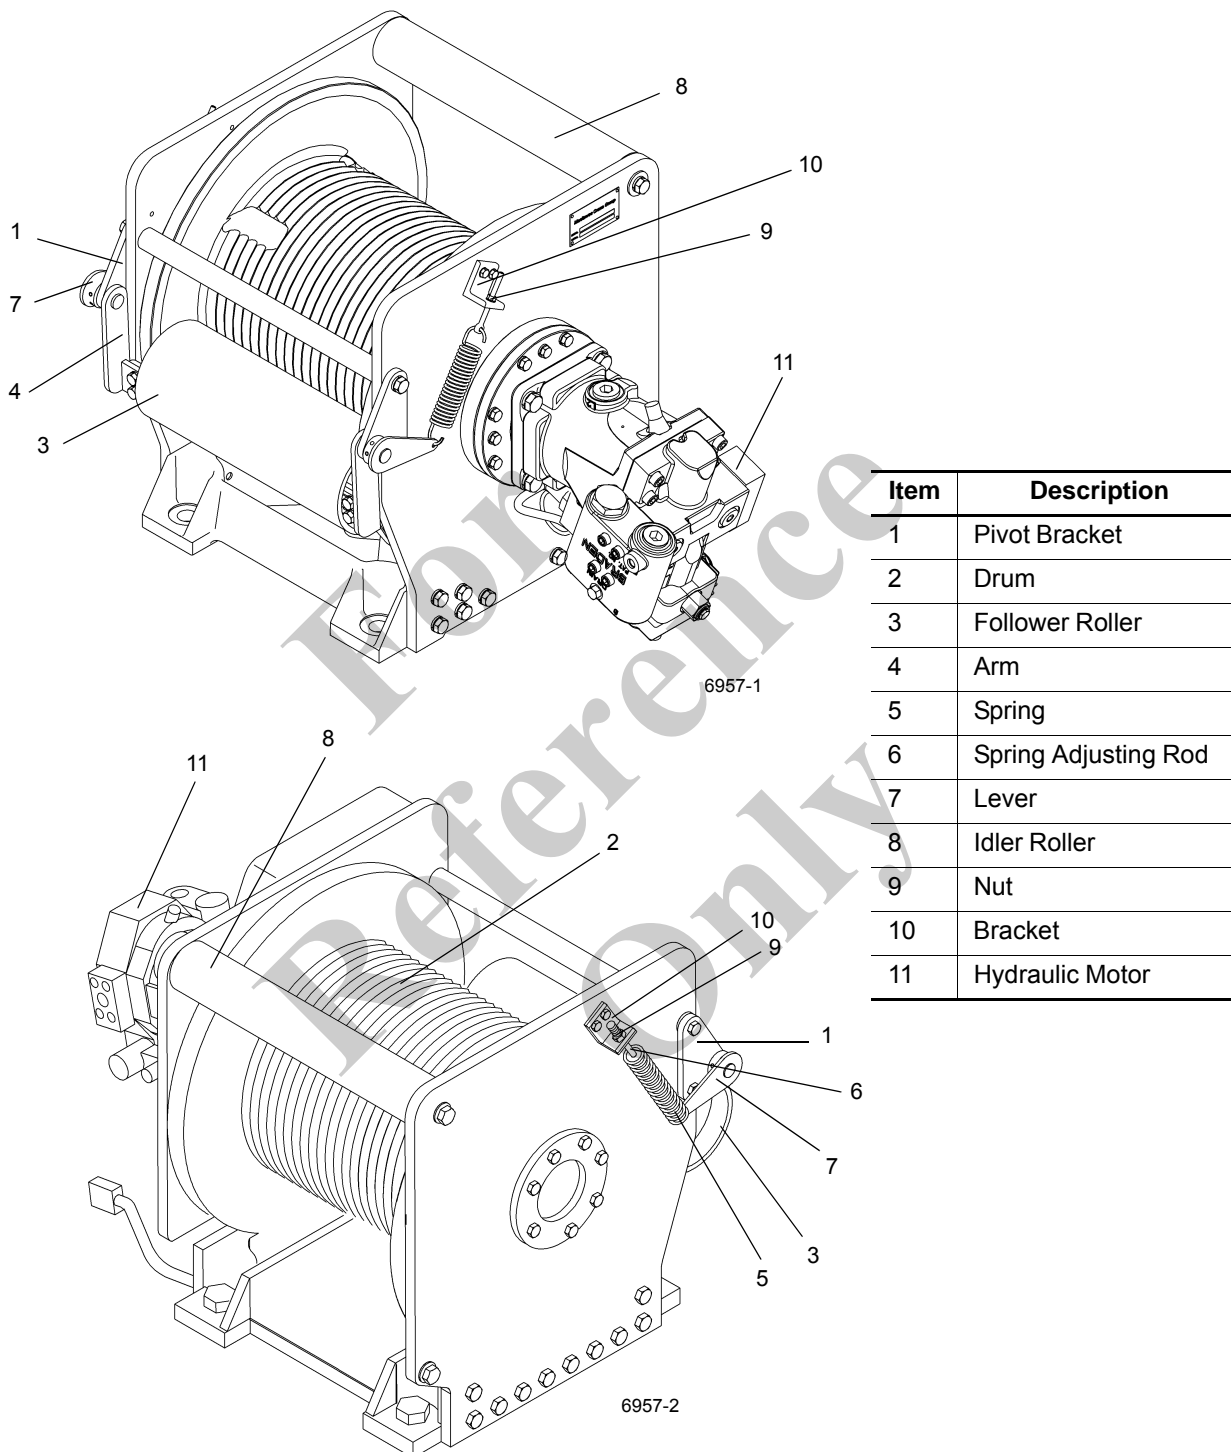

FIGURE 5-3
1. Remove the bolt, washer, and lockwasher from the right side of the idler roller (Figure 5-3).
1. Loosen the adjusting nuts and remove the tension spring and adjusting rod from both sides of the hoist (see Figure 5-3).